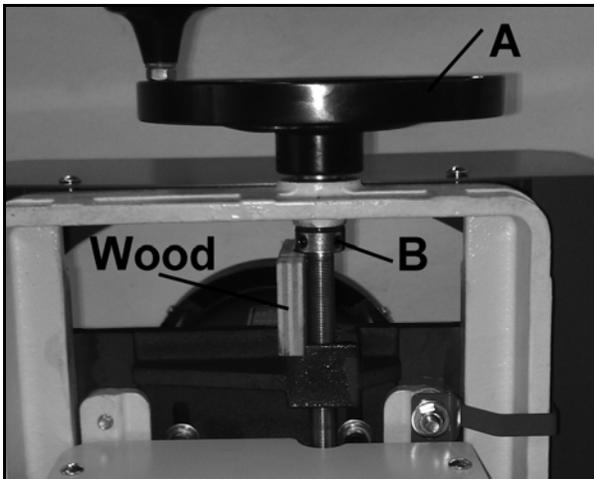

Figure 23
3. Push height adjustment handwheel (A, Figure 23) downward to set firmly on housing. Loosen set screws of shaft collar (B, Figure 23). Slide shaft collar upward against housing so that all vertical free play of height adjustment screw is eliminated. Use a block of wood on top of the motor mount plate and under collar. Raise the motor mount plate by rotating the handwheel to help remove free play. Lubricate around washers beneath handle and above collar.